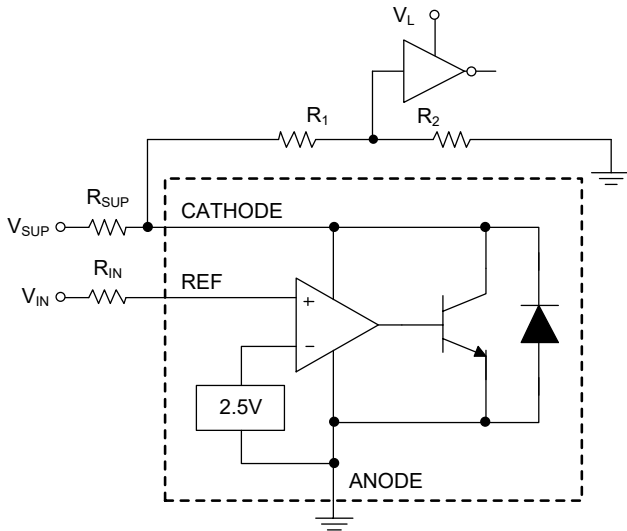
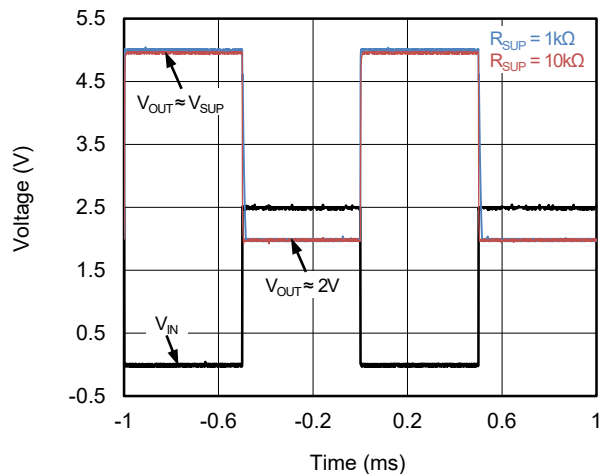

Figure 3. Comparator Application Schematic
Figure 4. Output Response with Various Cathode Current
As shown in Figure 3, the LM431BQ is always used as a comparator with 2.5V integrated reference in application, for this design, the parameters are listed in Table 1. The REF pin voltage is compared with reference inside and is amplified. Also, the LM431BQ responds fast if the operation current I_{KA} is large enough. In Figure 4, it is clear to see that the output response with $R_{SUP}=1k\Omega$ is much faster than $R_{SUP}=10k\Omega$. The maximum cathode current of I_{MIN} is 0.7mA, any cathode current below this value will cause a low response (low open-loop gain) for the application of comparator.
The input resistance should be less than 10k Ω in order to minimize the voltage drop between V_{IN} and V_{REF} . The readability of the logic output of the comparator should be guaranteed so that it can be received by the next stage. In Figure 4, the V_{IL} of the comparator logic is 2V, which is sufficient for a 5V supply voltage. However, for the logic stage which is powered by 1.8V or 3.3V, the V_{IL} is hard to be figured out. To accommodate this, a voltage divider should be taken into account. Due to the Open-Collector (OC) output stage, the V_{IH} is equal to the voltage of its power supply. When the voltage divider is used to attenuate V_{IH} , please make sure that the sum of R_1 and R_2 is greater than the internal resistance R_{SUP} of the power supply.